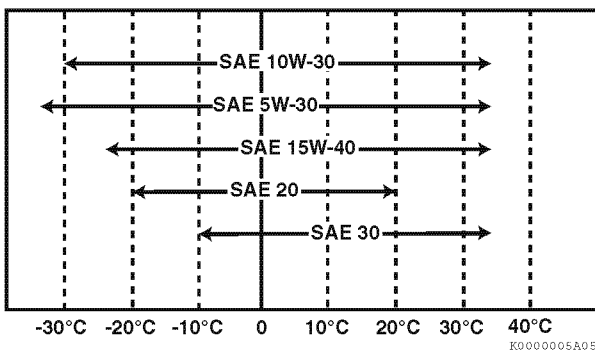

Figure 3
3. Select the oil viscosity based on the ambient temperature where the engine is being operated. See SAE Service Grade Viscosity Chart (**Figure 3**).
Select the appropriate engine oil viscosity based on the ambient temperature and use the SAE Service Grade Viscosity Chart in **Figure 3**.